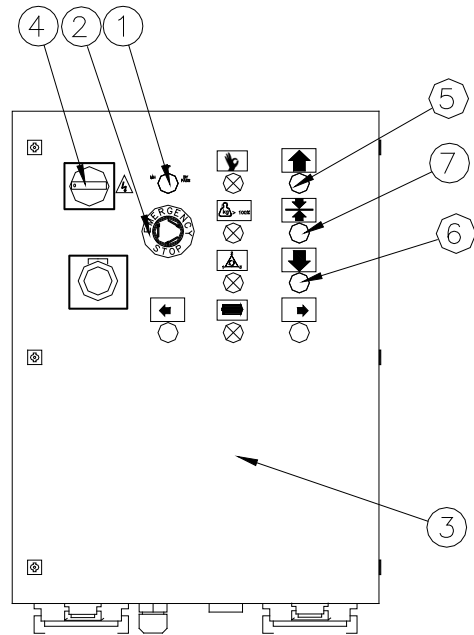

Fig.I.01 Electric panel on platform
- 5 Remove the padlock from the main switch (3-fig.I.02 e 4-fig.I.01).
- 6 Check if the emergency stop pushbutton on the electrical box on drive unit (2-fig.I.01) and on the push button box (4-fig.I.02) is switched off (button should be released).
The machine can be commuted from transport platform to material hoist and vice versa, acting on the key switch placed on the electrical box in the platform (1-fig.I.01).
KEY SWITCH MH / TP / BY PASS (1-fig.I.01):
SECONDARY SWITCH (4-fig.I.01):
Rotate the main switch to position ‘1’. Furthermore the secondary key switch, that is placed on the electrical box on drive unit, must be rotated in the same position (4-fig.I.01).